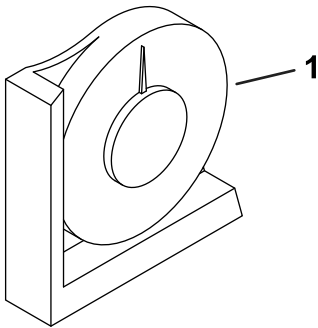

Figure 3
2. Verify that the machine is level by placing the handheld inclinometer (supplied with the machine) on the frame cross rail, by the fuel tank (Figure 3).